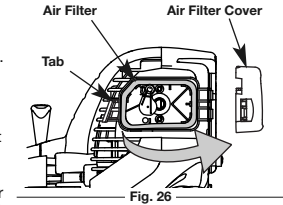

Fig. 26
1. Open the air filter cover. Push the tab on the left side of the cover inward. Then pull the air filter cover out and to the right (Fig. 26).
2. Remove the air filter (Fig. 26).